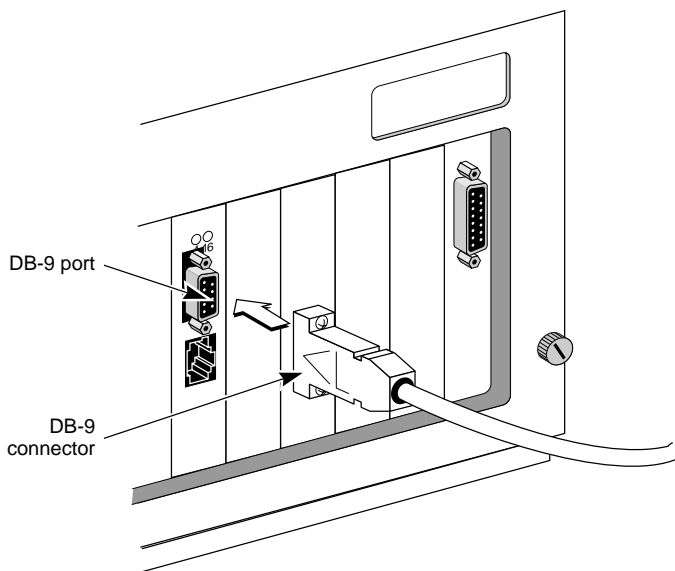
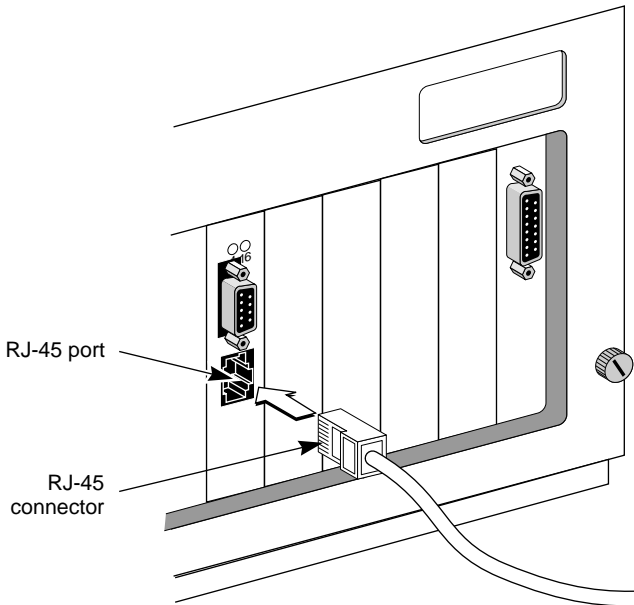

Figure 2-5 Attaching the STP Cable with the DB-9 Connector
Figure 2-6 Attaching the UTP Cable with the RJ-45 Connector
Figure 2-5 and Figure 2-6 show the adapter connectors.
- 1 Locate the adapter's DB-9 connector on the backplate, as shown in Figure 2-5.
- 1 Locate the adapter's RJ-45 port on the backplate, as shown in Figure 2-6.